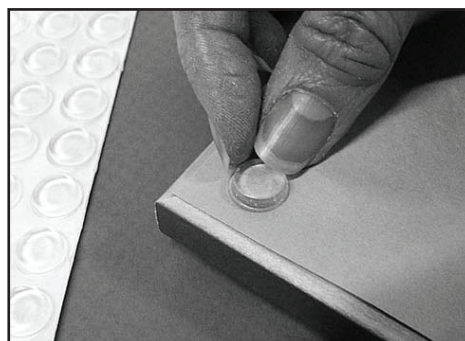

Fig.5
5. Crease paper along the edges of frames. **(Fig. 5)**
For a nice finishing touch, attach self-adhesive bumper pads to each corner on the back of your frame. These will prevent the frame from scratching the wall. The pads simply peel off a sheet of release paper and adhere to the dust cover (**Fig. 5**).